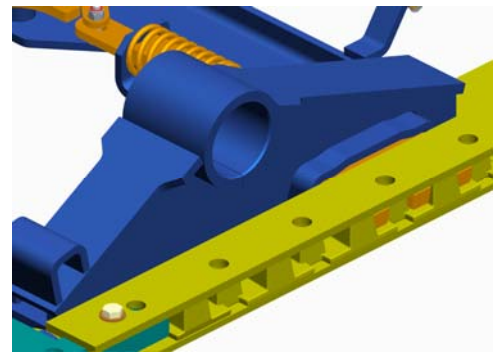

FIGURE 4
1. Clean I.D. of Bracket Tube (see figure 4).